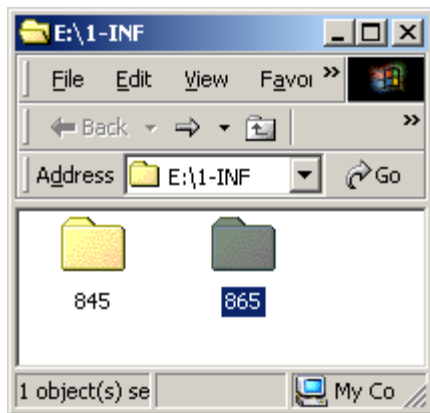

Figure 7-1: Chipset Folder
Step 2: A new window opens (**Figure 7-1**).
Step 3: Select **865** from the list in **Figure 7-1**.